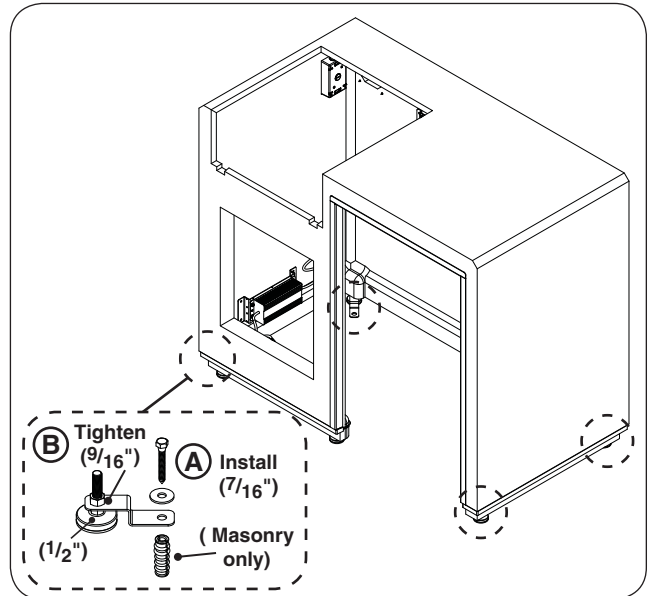

Fig. 7-2 Mount island
3. Secure the island to the floor using the 4 pre-installed mounting brackets. Use a $\frac{7}{16}$ " open end wrench and the supplied mounting hardware as appropriate. See Fig. 7-2, A.
Finish by tightening down the brackets. Hold a leveler in place (below bracket) with a $\frac{1}{2}$ " open end wrench, and tighten the nut (above bracket) using a $\frac{9}{16}$ " open end wrench. See Fig. 7-2, B.